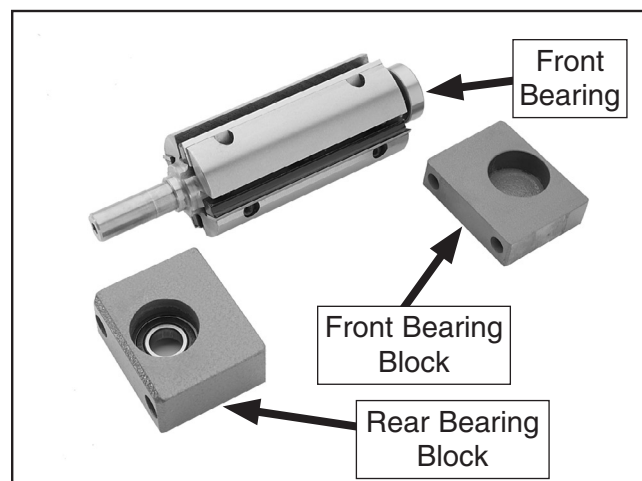

Figure 7. Disassembled cutterhead assembly.
14. Remove the front bearing block and bearing from the cutterhead—if it has not already dropped off. **Figure 7** shows the disassembled components.